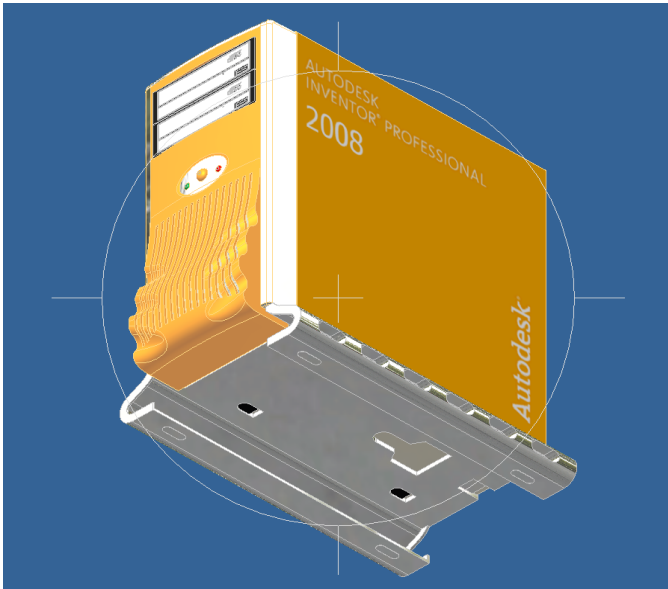

Figure 2
- Start the Rotate tool (Figure 2).